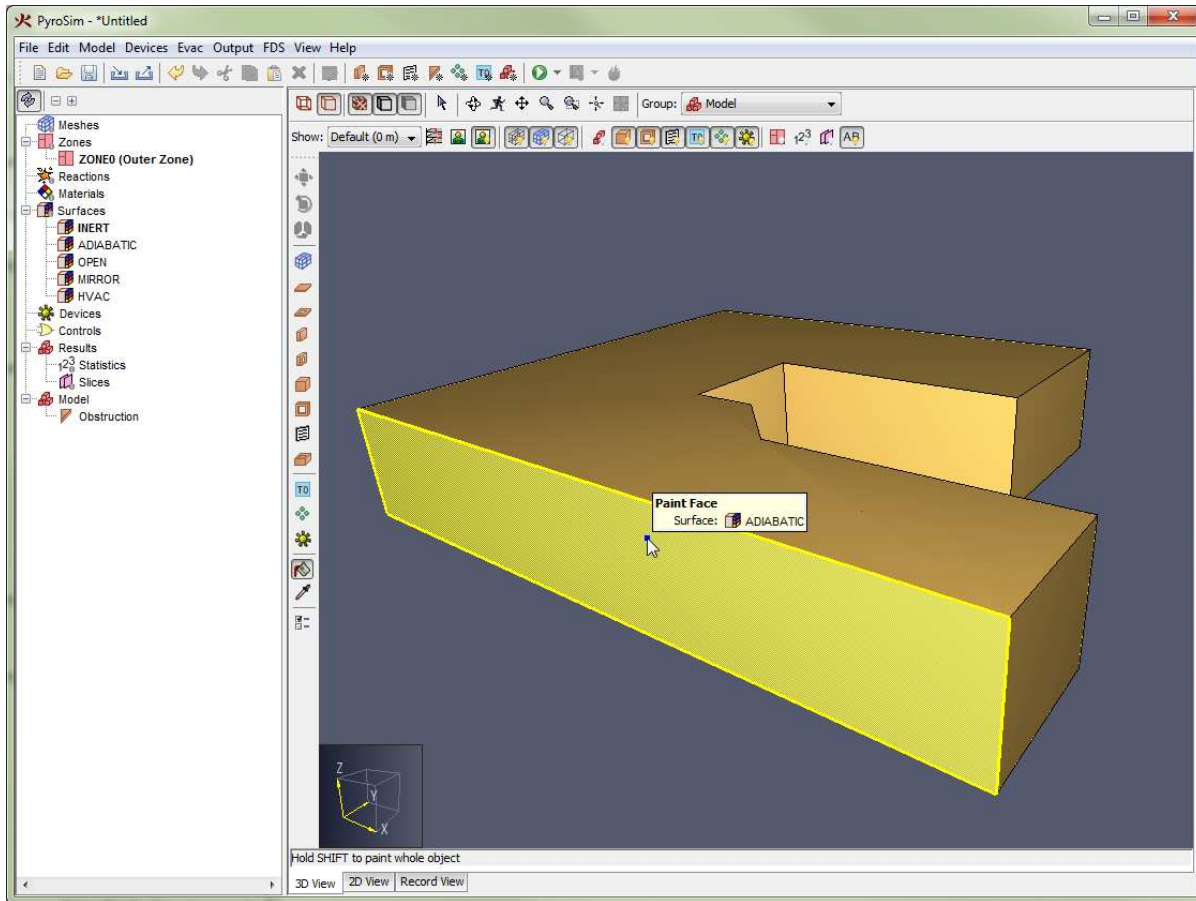

Figure 99. An obstruction face highlighted by the paint tool
2. Hover the cursor over the desired face to paint. If the face can be painted with the current surface/color, the face will highlight yellow as shown in Figure 99.